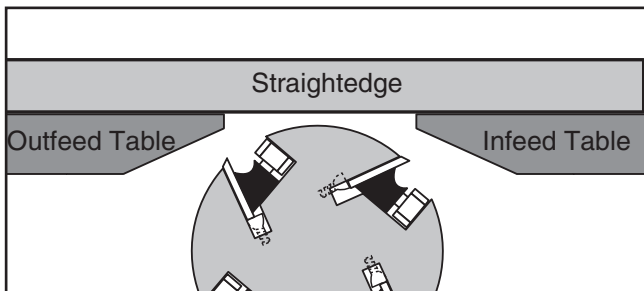

Figure 52. Infeed and outfeed tables set evenly (knife-style cutterhead shown).
7. Place straightedge halfway across infeed and outfeed tables, and adjust infeed table even with outfeed table, as shown in **Figure 52**.